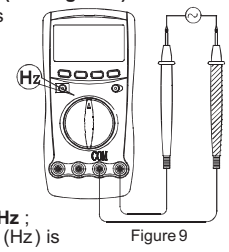

Figure 9
G. Measuring Frequency (See Figure 9)
H. Measuring Duty Cycle (See Figure 9)